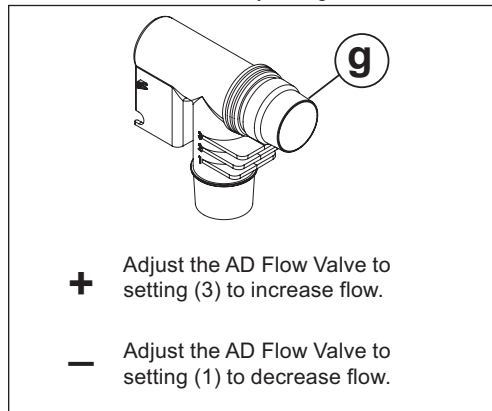

Figure 7. AD Flow Valve
- AD flow valve at the skimmer for skimmer installation (Figure 7).